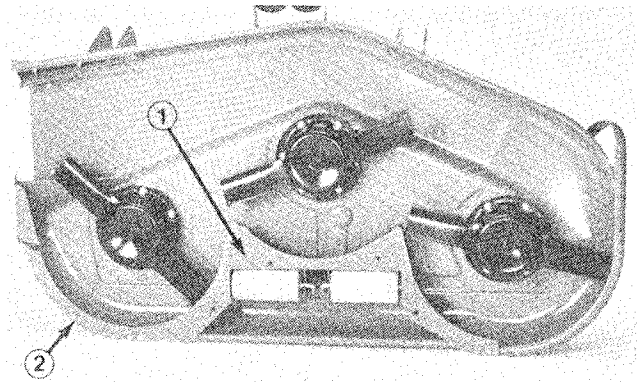

Figure 7
7. Position center ring baffle on deck as shown (Fig. 7). Using a long thin pencil or punch, mark (4) middle mounting holes in deck. (Holes may already be in deck)
8. Drill (4) 13/32" dia. holes in deck, if required.
9. Mount center baffle to deck with (4) 3/8-16 x 1" capscREWS and lock nuts (Fig. 7).
10. Using center baffle as a template, drill (2) 9/32" dia. holes thru curve edge of deck (Fig. 7). Secure baffle to edge of deck with (2) 1/4-20 x 3/4" capscREWS and lock nuts.
11. Align right ring baffle with end of center baffle and edge of deck (Fig. 7). Mark and drill (2) 9/32" dia. holes thru curve edge of deck (Fig. 7). Secure right baffle to edge of deck with (2) 1/4-20 x 3/4" capscREWS and lock nuts.